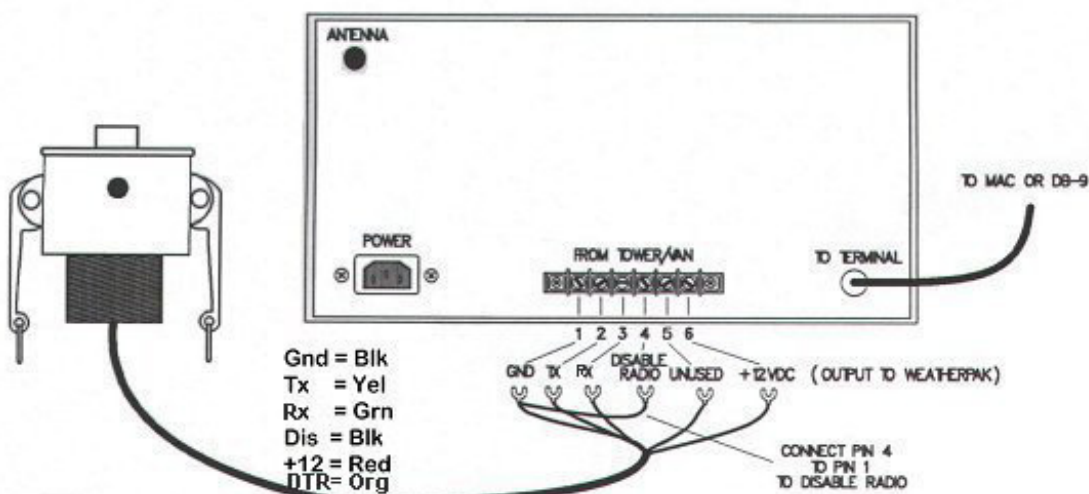

Figure 6. Receiver box rear panel connections.
- Check the cable connections from the WEATHERPAK® to the receiver, they might be incorrectly wired. See section 2.4 figure 6.